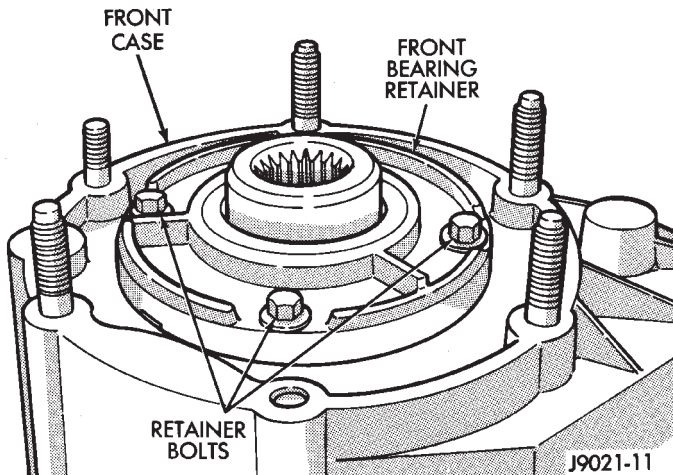

Fig. 22 Front Bearing Retainer Bolt Locations
(32) Turn front case over and remove front bearing retainer bolts (Fig. 22).